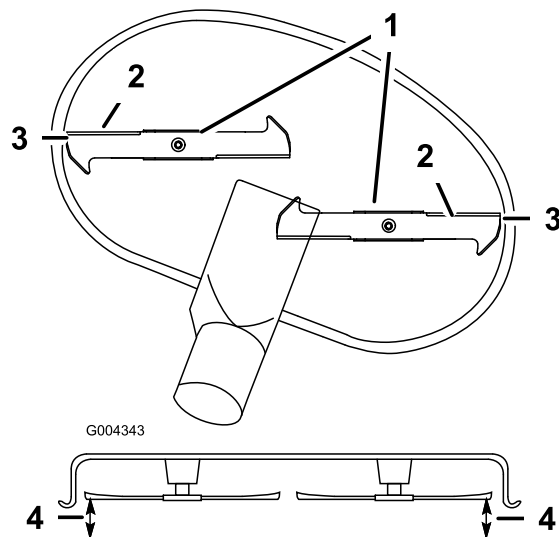

Figure 52
5. Carefully rotate the blade(s) side to side (Figure 52). Measure between the outside cutting edges and the flat surface (Figure 52). If both measurements are not within 3/16 inch (5 mm), an adjustment is required; continue with this procedure.